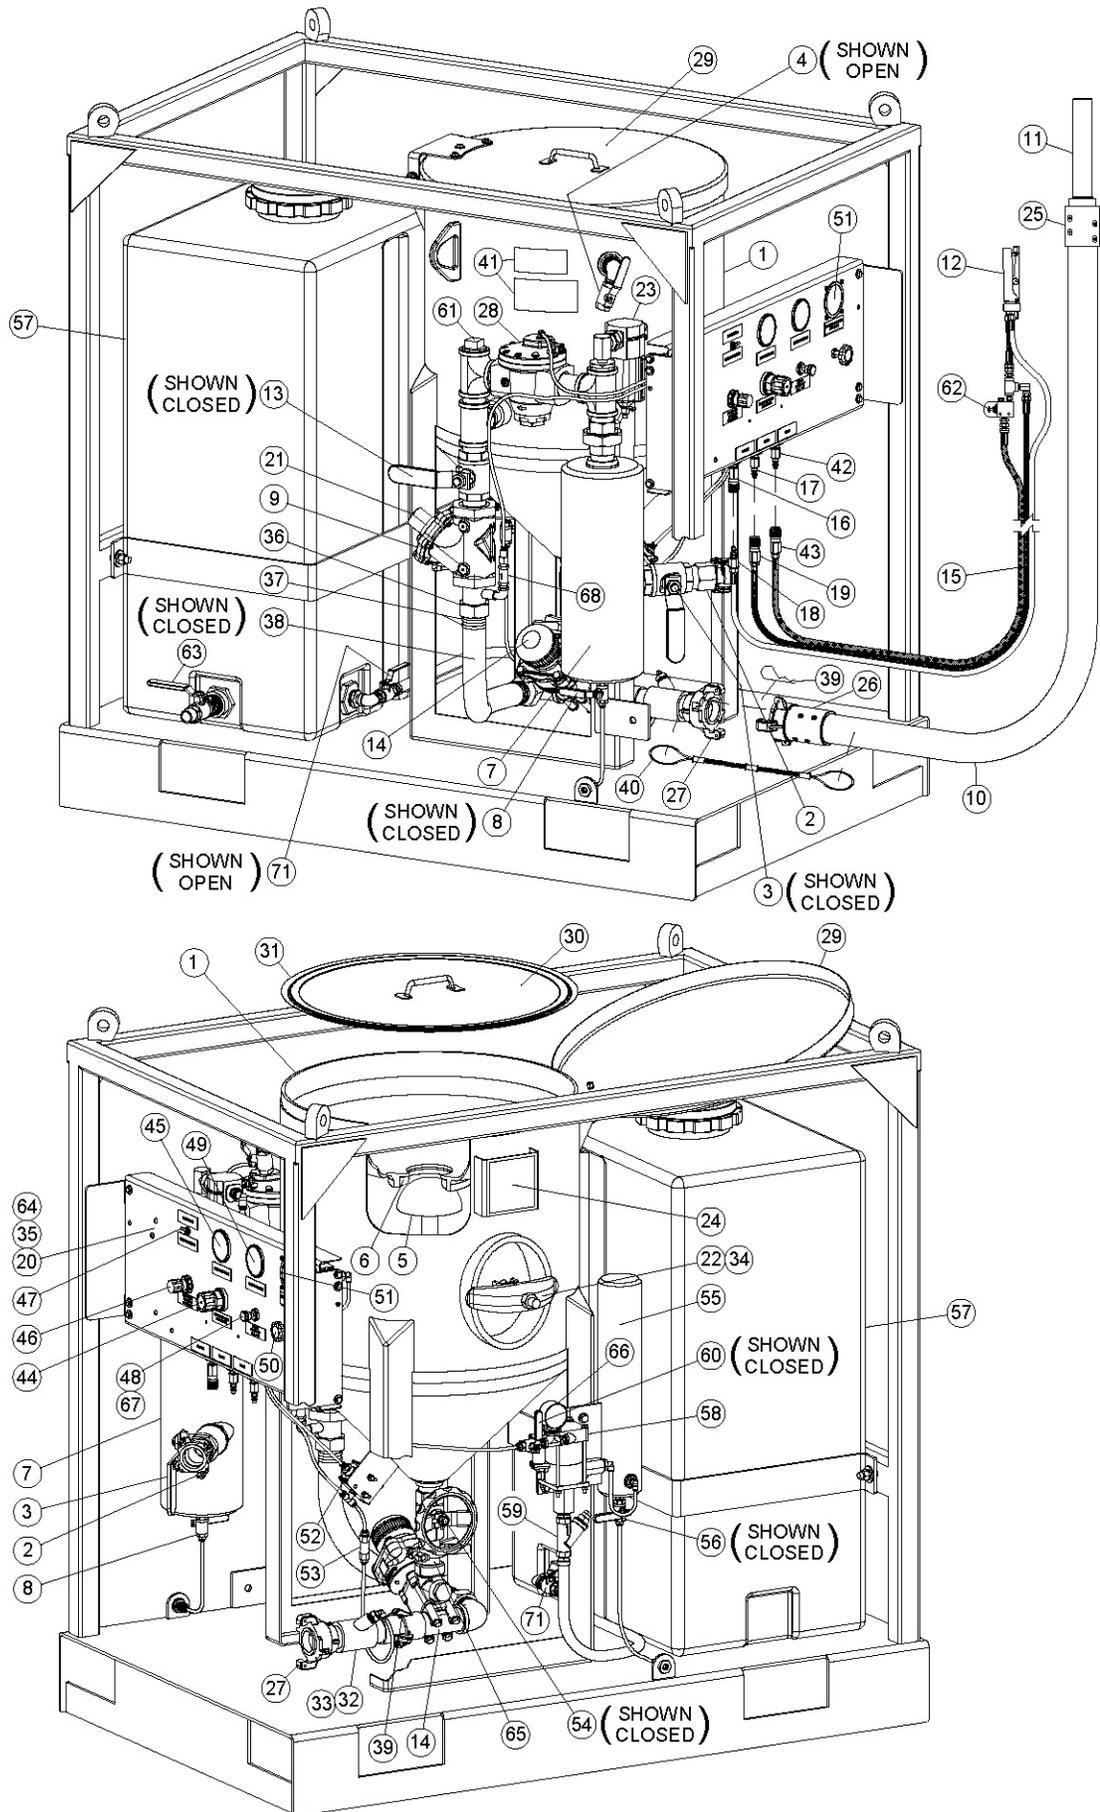

Figure 7.1 – AmphiBlast™ With Pneumatic Blast Controls
- 7.1.2. Remove the vessel lid (#29) and screen (#30) to check that the popup (#5) has dropped open. The open popup indicates that the blast vessel is depressurized. See Figure 7.1.
- 7.4.7. Close the blowdown ball valve (#4). The ball valve is closed when the handle is perpendicular to the body (See Figure 7.1).
- 7.5.9. Close the blowdown ball valve (#4). The ball valve is closed when the handle is perpendicular to the body (See Figure 7.1).
- 7.6.9. Close the blowdown ball valve (#4). The ball valve is closed when the handle is perpendicular to the body (See Figure 7.1).